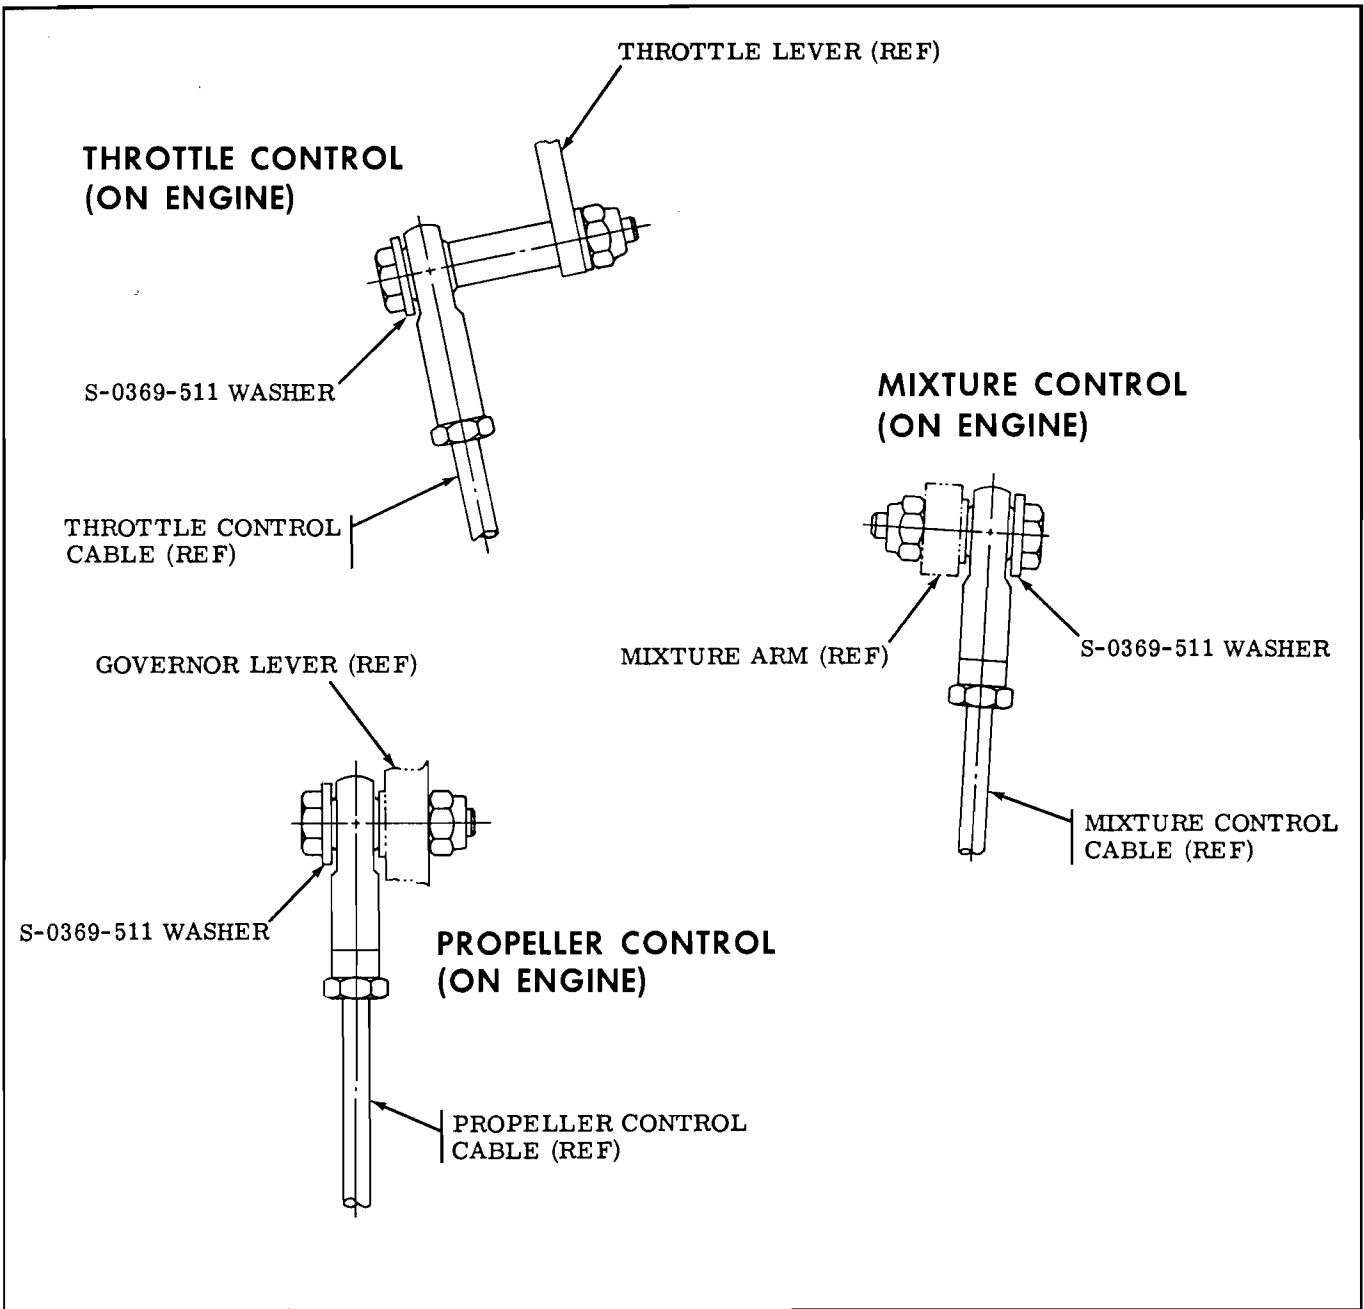

Figure 1.
2. Remove and discard existing large aluminum washer from throttle control lever, mixture control arm and prop governor lever and install S-0369-511 steel washers (see Figure 1.).